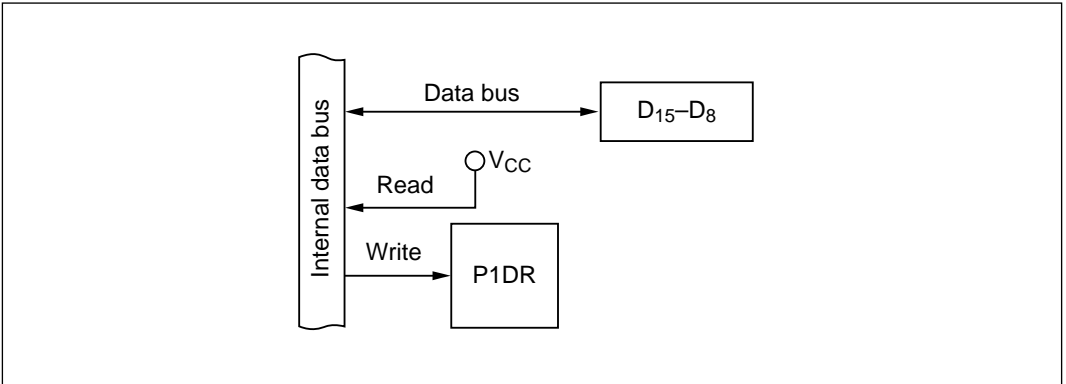

Figure 10-5 Data Bus: D_{15} to D_8 (Modes 1 to 6)
(1) Data Bus (Modes 1 to 6): Figure 10-5 shows a block diagram illustrating the data-bus function. Table 10-4 indicates register read/write data. When port 1 operates as a data bus, the values in the port 1 data register (P1DR) have no effect on the bus lines. When read, P1DR returns all 1s.